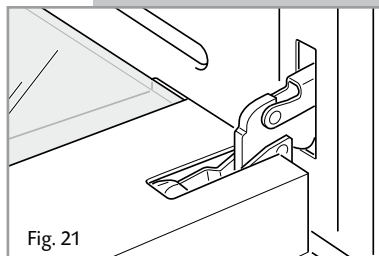

Fig. 21
- Fully open the oven door (fig. 21).
1. Make sure the door is locked open (see figs. 21, 22, 23).